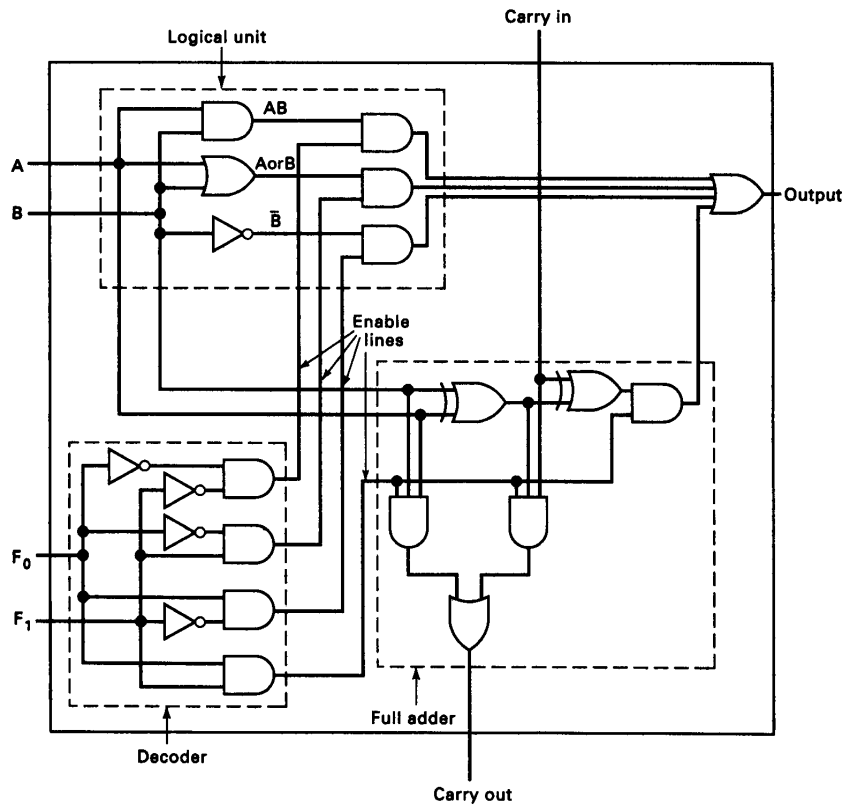

Figure 1: 1-bit ALU
8. Redesign the 1-bit ALU in Figure 1 below so that the functions performed, as specified by the 2-bit control inputs F_1F_0 are those shown in the following table: